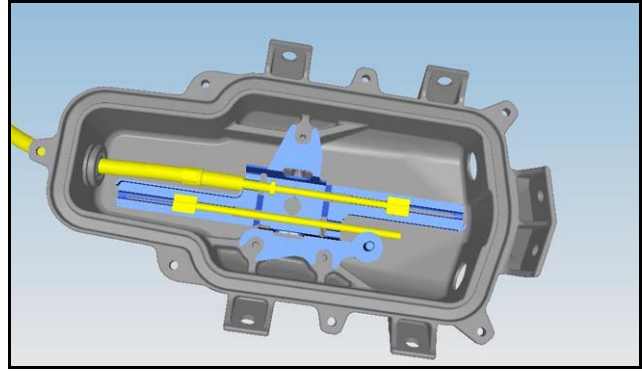

Figure 13
37. Record the positions of the latch and the reaction cable in the bracket when you have removed the motor (Refer to Figure 13).